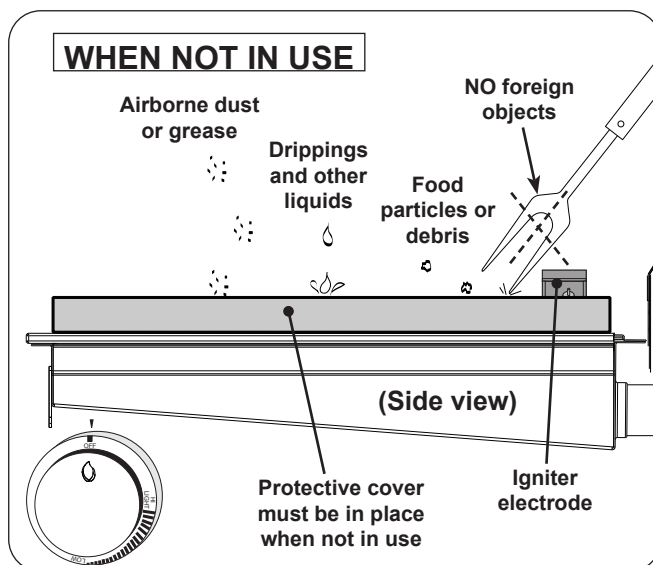

Fig. 36-2 Infrared burner - WHEN NOT IN USE
- When not in use, **always** cover the infrared burner with the stainless-steel cover. This protects the burner from drippings (from other cooking), water, airborne particles, and foreign objects (Fig. 36-2).
- Do not strike or scrape the ceramic portion of the burner as it may chip, crack, or break (Fig. 36-2).